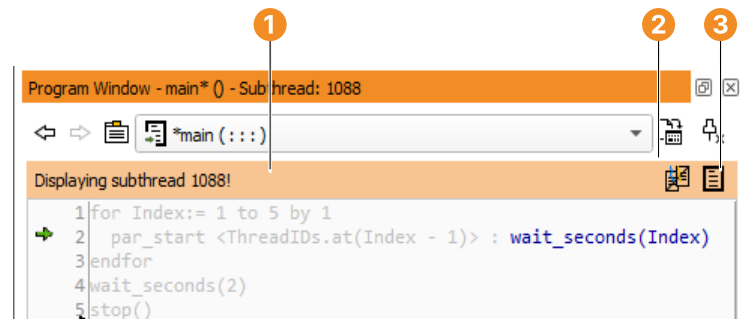

Figure 8.5: Selected subthread in the program window.
- ① Notification line
- ② Thread view window
- ③ Switch back to main thread
Single-stepping over a program line containing a `par_start` will initialize the corresponding thread without actually starting it. To debug a specific thread, press `[F7]` when the PC is on the corresponding `par_start` line. This will automatically make the new subthread the selected thread. If the PC is already past the invocation line, first select the thread in the thread view window. This will automatically display the correct procedure in the program window, with the PC on the first line if the thread was started by a procedure call. For threads started by an operator call like in the example above, the PC will be located on the corresponding call, and the rest of the program will be grayed out, see figure 8.5. The notification line ① in the program window shows the thread ID of the selected subthread, and allows fast access to the thread view window ②. Clicking ③ switches back to the main thread.